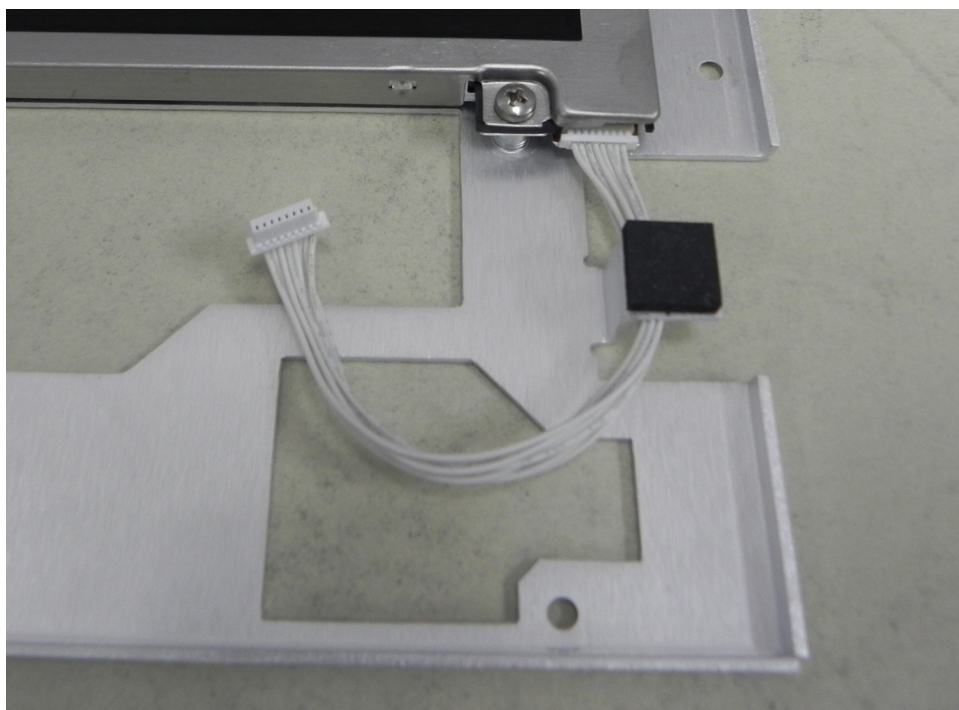

Figure 5-20. LCD Cable Path
13. Note the correct cable path shown below when reattaching the LCD bracket to the Front Panel (Figure 5-20).